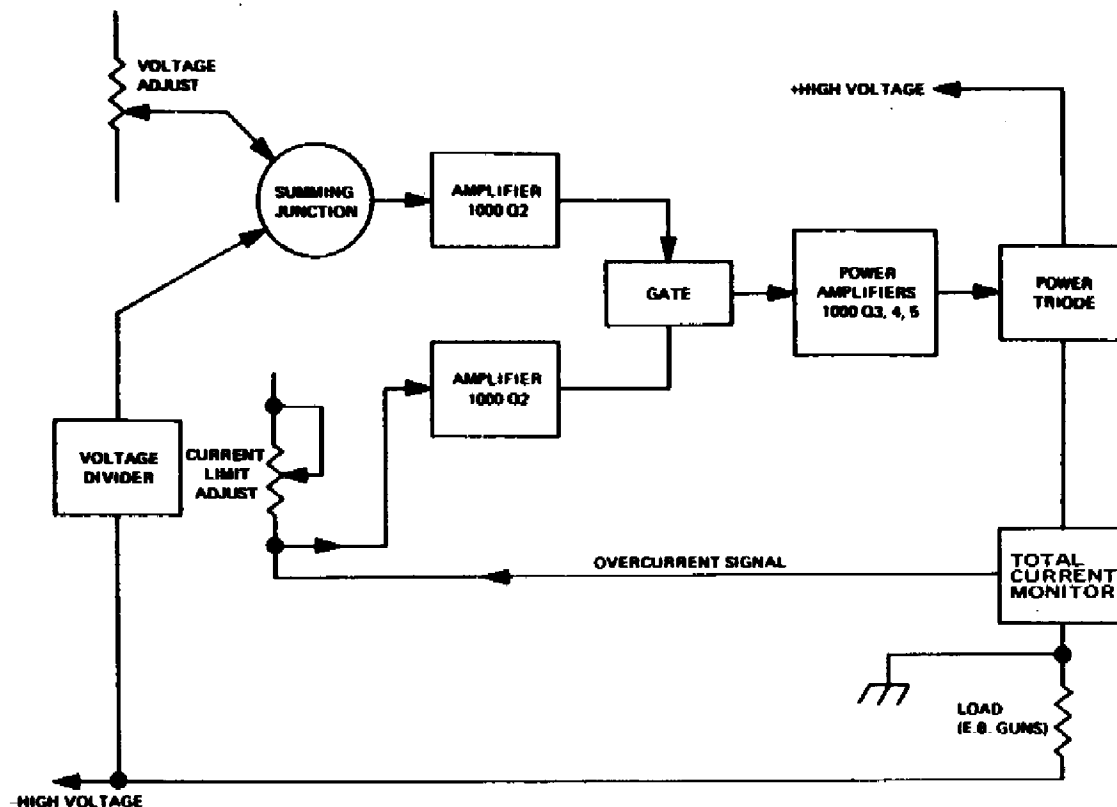

Figure 5-4. CV-8 A and B high voltage regulation block diagram
5.2.3 High Voltage Regulation (Figures 5-4 and 5-5)